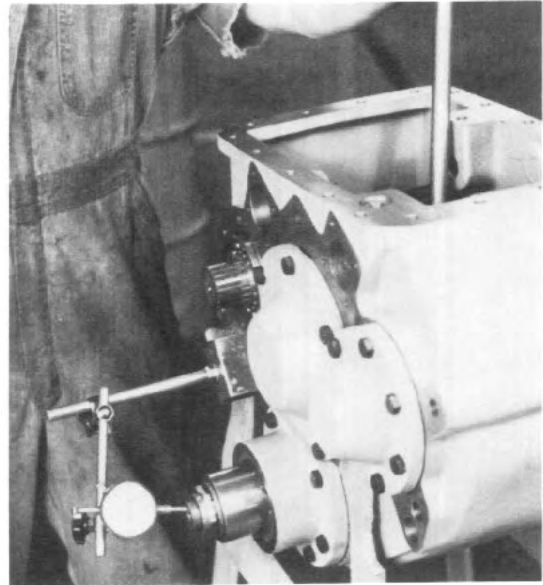

Fig. 18
12. Check rear output shaft end float between shaft and housing. End float should be between .010 and .015 inches (See Fig. 18).